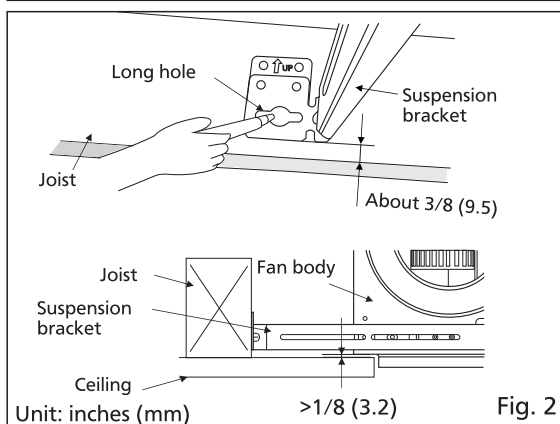

Fig. 2
3. Position the fan body between joists, and hold it properly. Mark the long holes of all the four suspension brackets on joists. (Fig. 2)